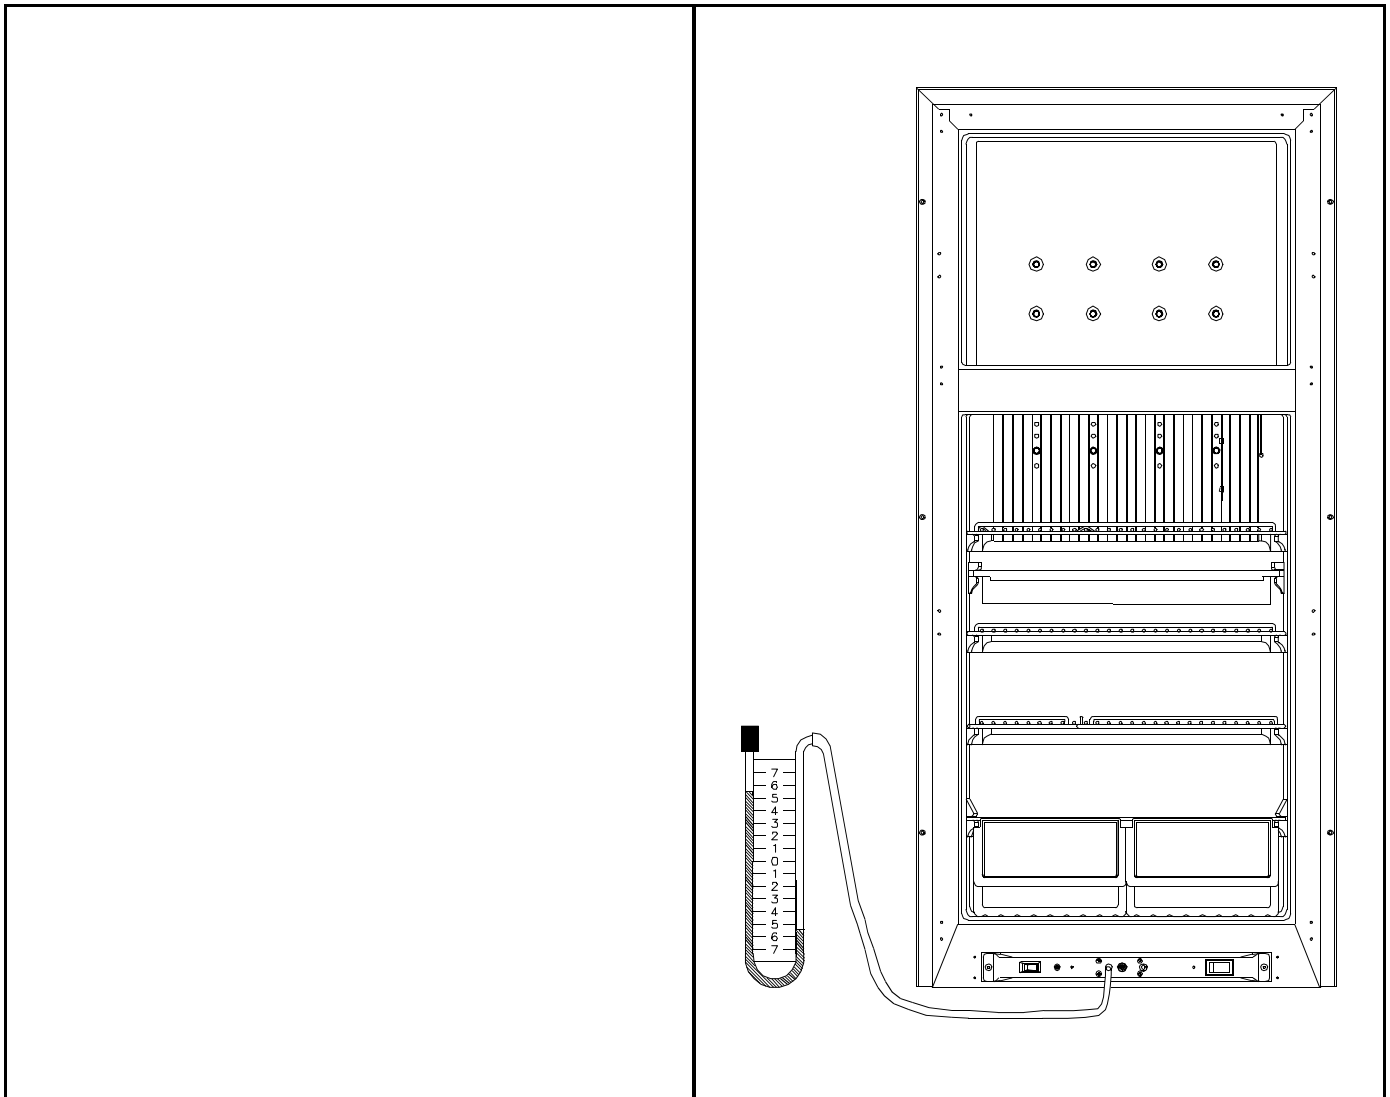

Figure 3.29A Incorrect Manometer Reading
10. Figure 3.29A represents a possible defective combination control, a clogged gas filter or a kinked supply line. Figure 3.29B indicates proper gas pressure in a properly functioning refrigerator.